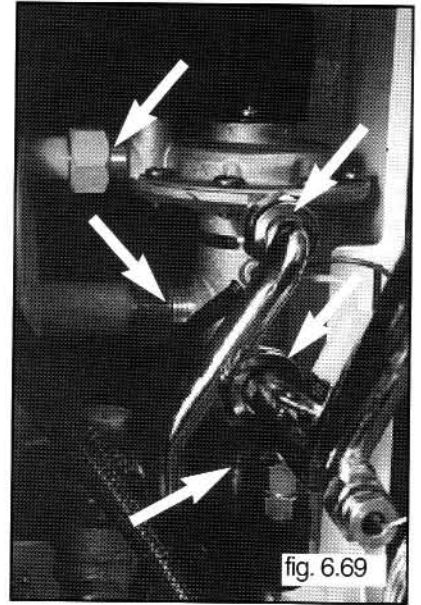

fig. 6.69
- 6 Release all the coupling nuts using a 20, a 30 and a 36 mm open ended (see fig. 6.69);